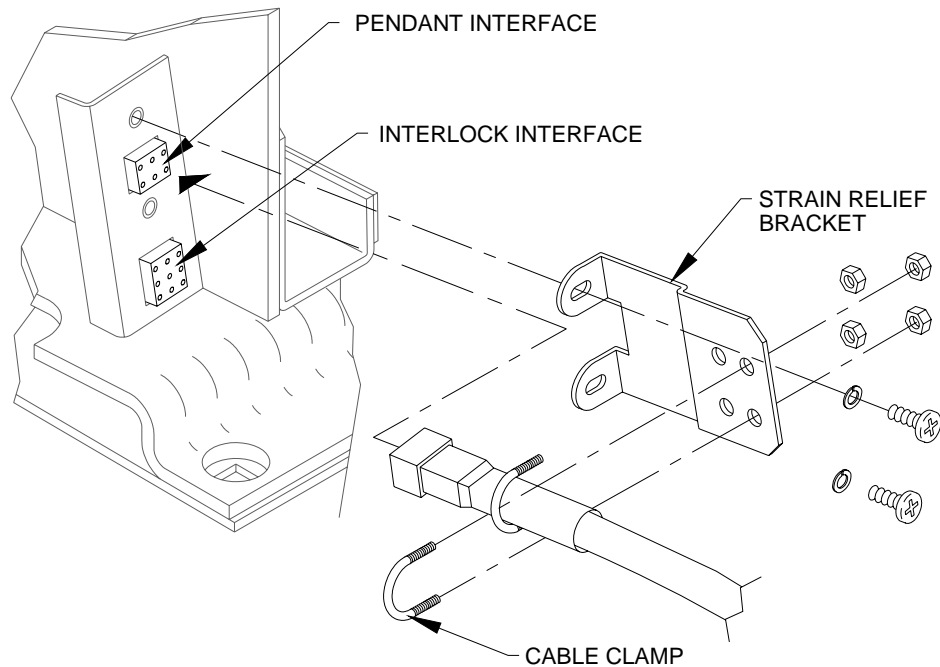

FIGURE 2-7: STRAIN RELIEF KIT
- a. Refer to **Figure 2-7**. Connect hand-held control pendant to six-pin connector at left side of baseplate and secure cable with supplied cable clamp.